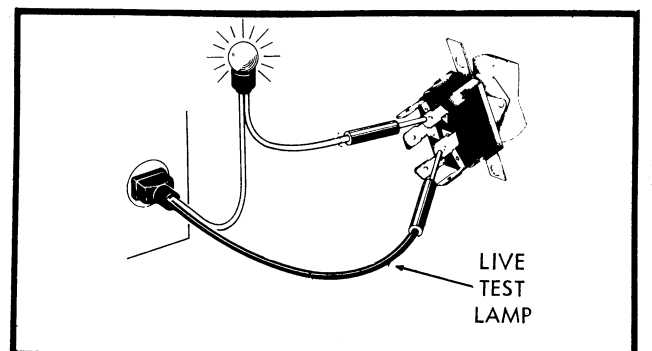

Figure 12J
HIGH-LOW HEAT SELECTOR SWITCH, Rocker Type, Figure 12J.
3. With switch on LOW position, place probes to center and upper brass terminals, Figure 12J. Test lamp should light, or ohmmeter should show continuity. Lamp should not light, or continuity should NOT exist when switch is moved to HIGH position,